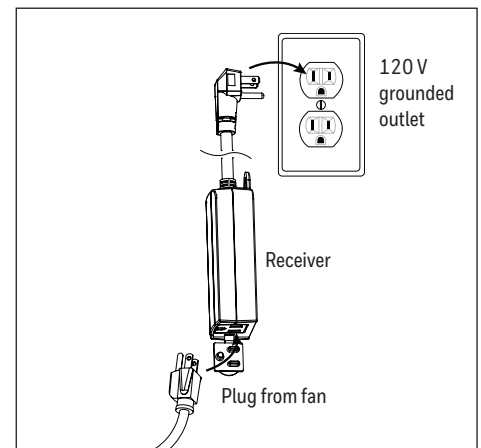

Figure 1.6
6. Plug power cord into the receiver and plug the receiver into a grounded 120 V outlet (Figure 1.6).